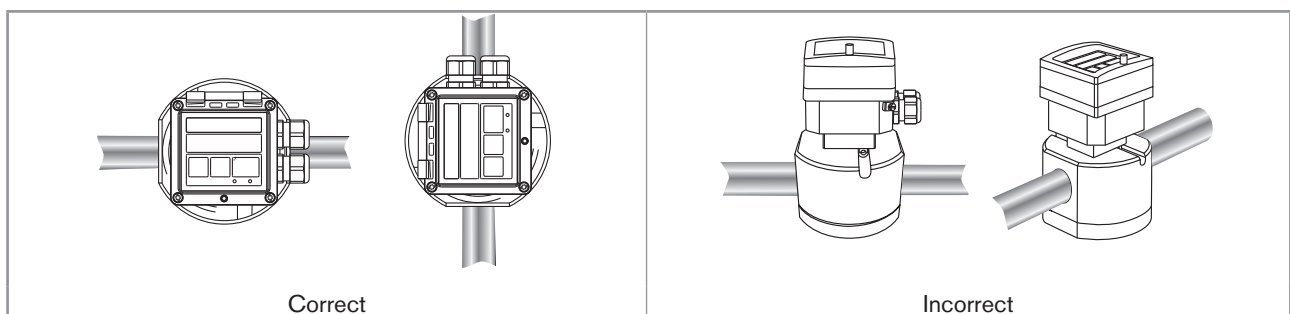

Fig. 14 : The axle of the oval gears must be horizontal
- the axles of the oval gears are set horizontally, as shown in Fig. 14,